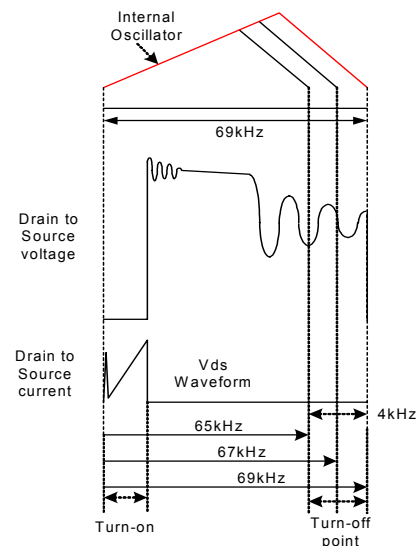

Figure 11. Frequency Modulation Waveform
7. Frequency Modulation : EMI reduction can be accomplished by modulating the switching frequency of a switched power supply. Frequency modulation can reduce EMI by spreading the energy over a wider frequency range than the band width measured by the EMI test equipment. The amount of EMI reduction is directly related to the depth of the reference frequency. As can be seen in Figure 11, the frequency changes from 65KHz to 69KHz in 4mS for the FSDM0265RN. Frequency modulation allows the use of a cost effective inductor instead of an AC input mode choke to satisfy the requirements of world wide EMI limits.